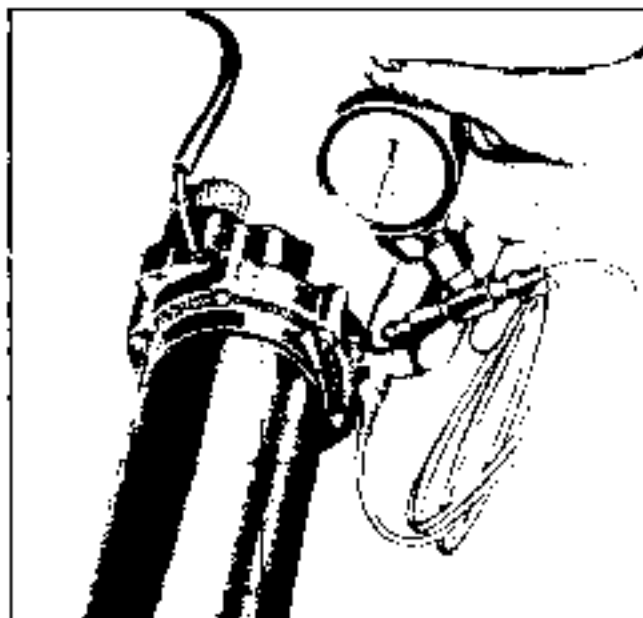

Fig. 4-27 Test Gauge Installed on Regulator Valve
1. Deflate system through service valve and disconnect line at pressure regulator valve. Install test gage on regulator valve high pressure fitting (Fig. 4-27).